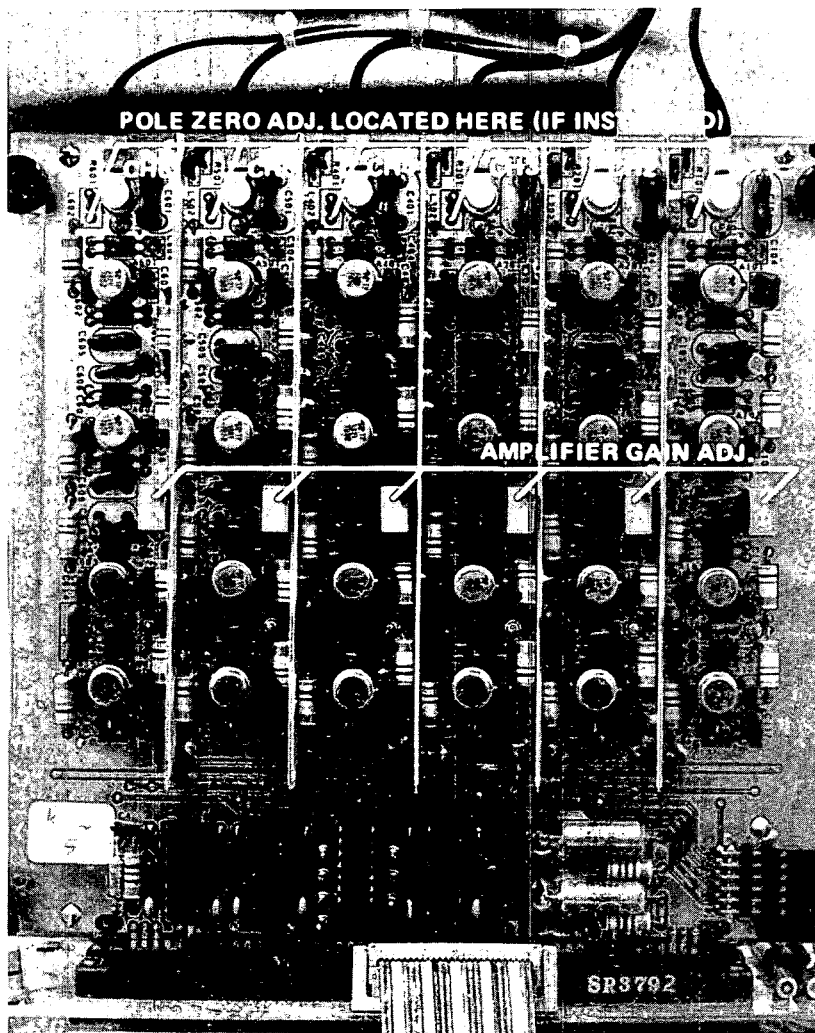
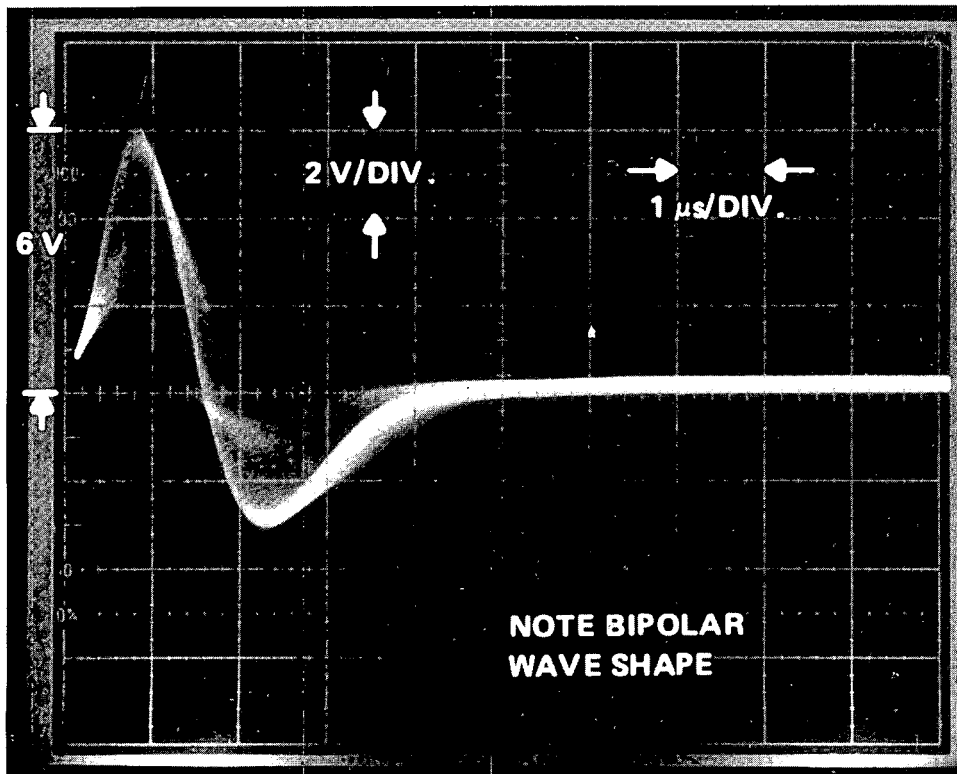

Fig. 19.
Fig. 20.
3. Adjust pole zero potentiometers (Fig. 19) to maximum in direction that gives bipolar pulse at amplifier front panel test points (Fig. 20).
4. Adjust each amplifier gain potentiometer (at midsection of analog board (Fig. 19) to center the amplifier peak pulses at 6 V (Fig. 20).